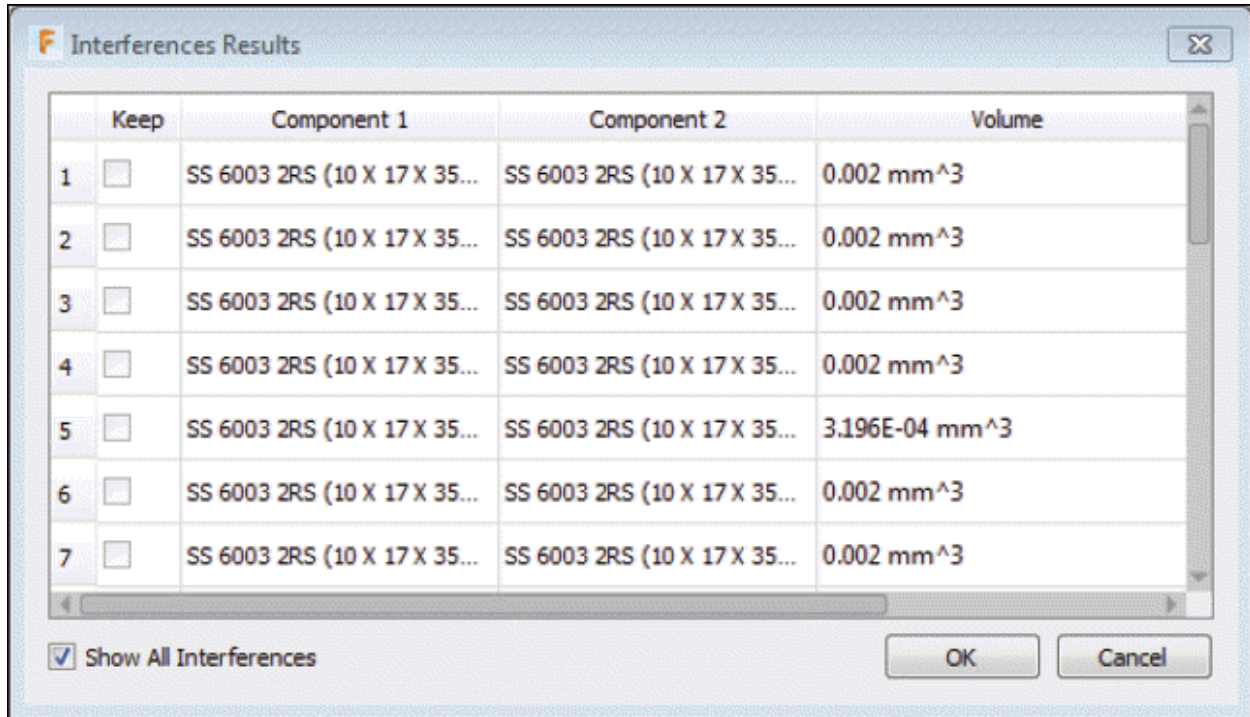

Figure-40. Interference Results dialog box
- After selecting the components, click on **Compute** button to calculate the interference. The **Interference Results** dialog box will be displayed; refer to Figure-40.